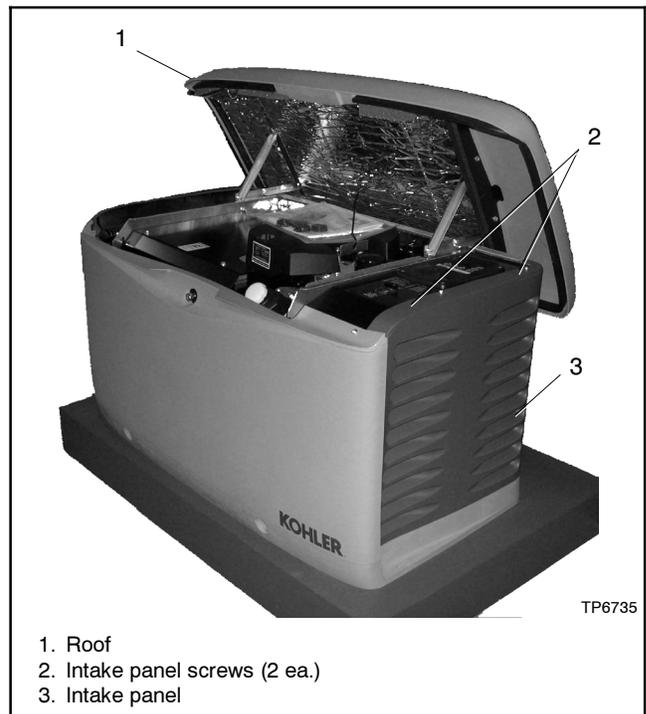

Figure 4 Enclosure Roof and Air Intake Panel
4. Remove two (2) screws on the intake panel and remove the panel. See Figure 4.